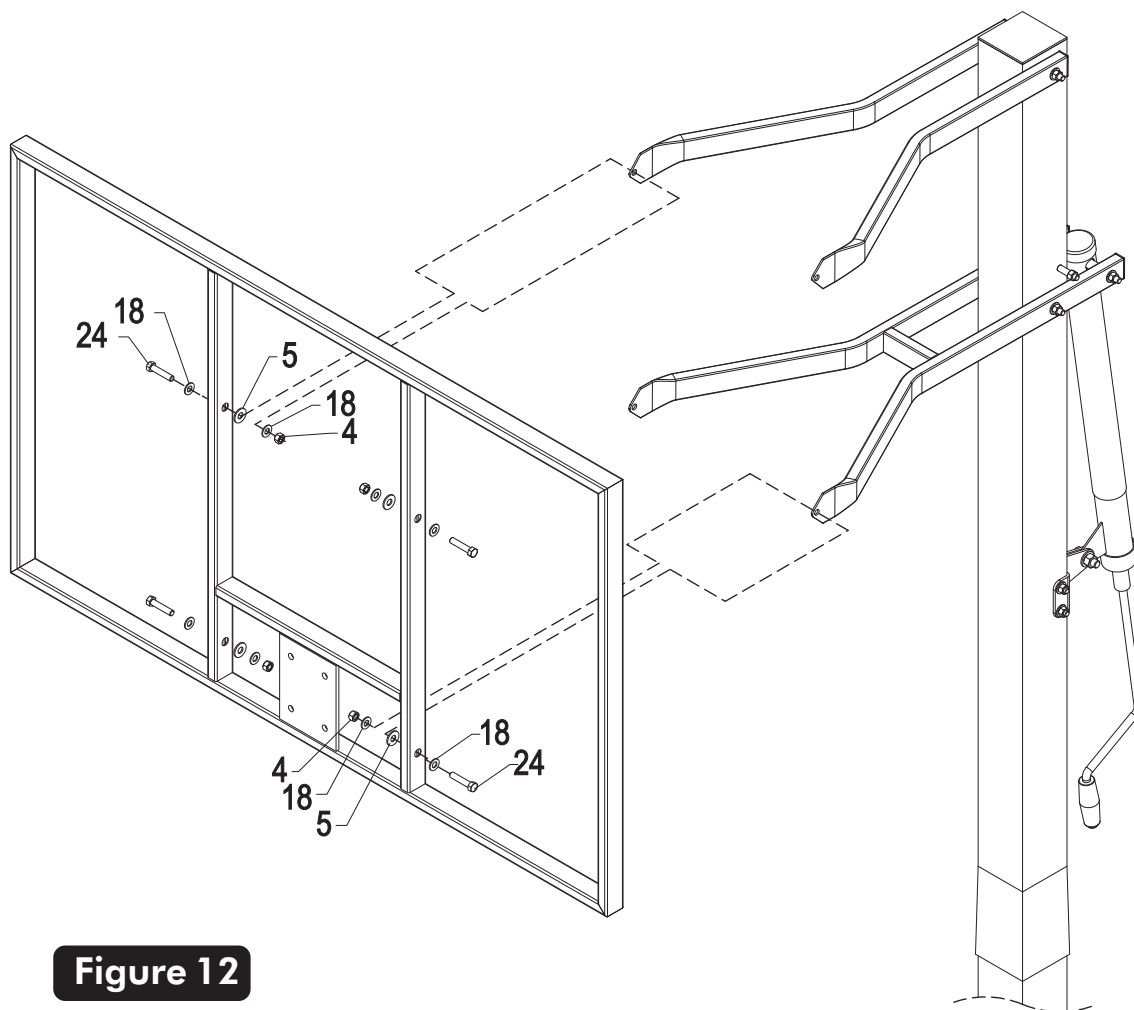

Figure 12
- 23.** With at least two capable people, raise the backboard assembly up and have the third attach Lower Board Arms to lower mounting tubes on backboard using two bolts (#24), two plastic washers (#5), four washers (#18) and two lock nuts (#4). See **Figure 12**.
- 24.** Attach Upper Board Arms to upper mounting tubes on backboard using two bolts (#24), two plastic washers (#5), four washers (#18) and two lock nuts (#4). See **Figure 12**.